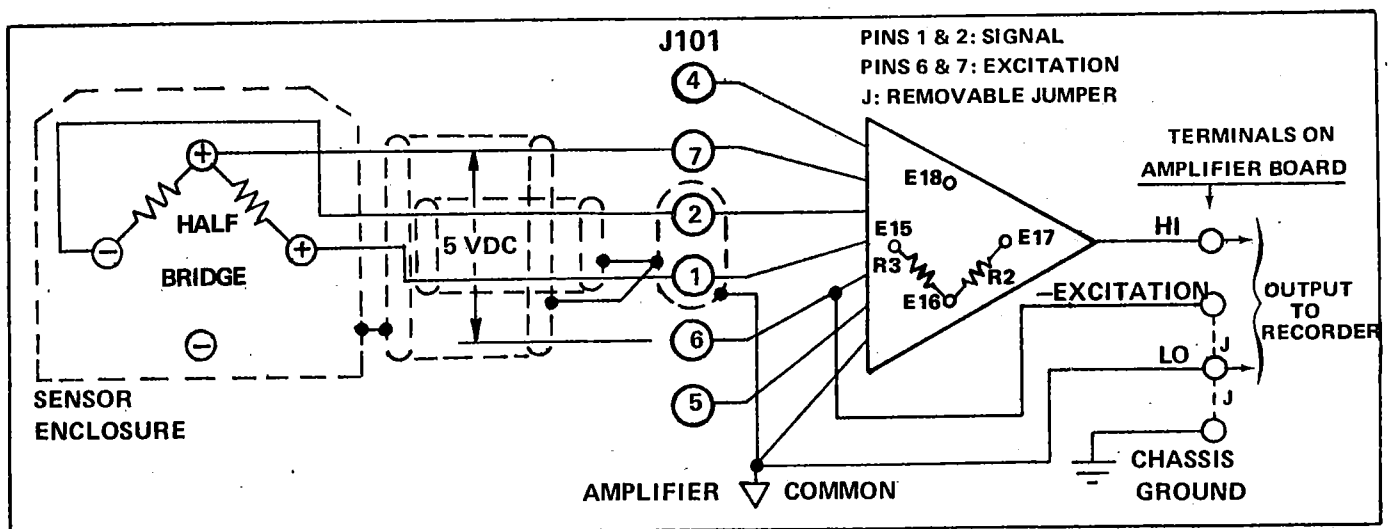

FIGURE 3-4 TWO ARM GAGE CONNECTIONS
3.4.2 Two Arm Gage (Figure 3-4)